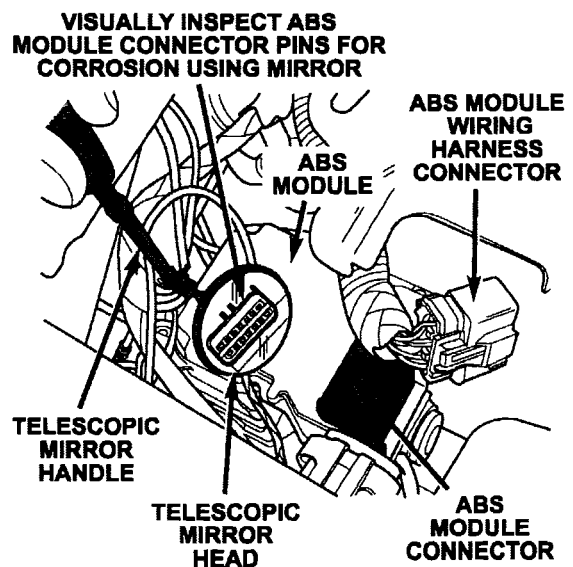

Figure 12
6. Using a small mirror (Snap-on GA295 or equivalent), inspect the ABS control module connector pins for green corrosion and the connector housing for heat damage (Figure 12).